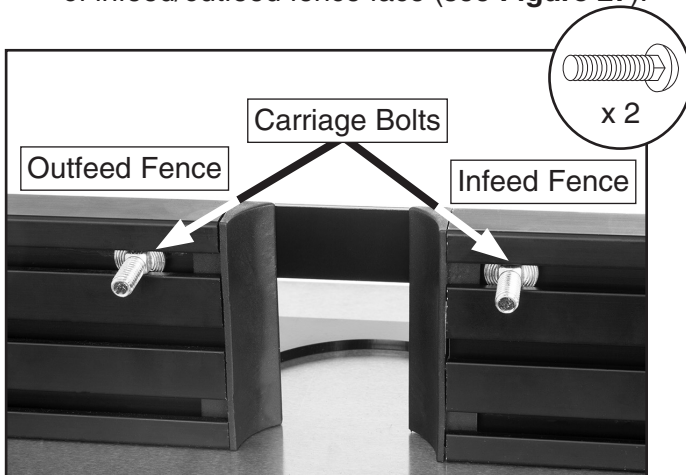

Figure 27. Carriage bolts installed on fence.
21. Install (1) $\frac{1}{4}$ "-20 x $\frac{3}{4}$ " carriage bolt in top slot of infeed/outfeed fence face (see **Figure 27**).